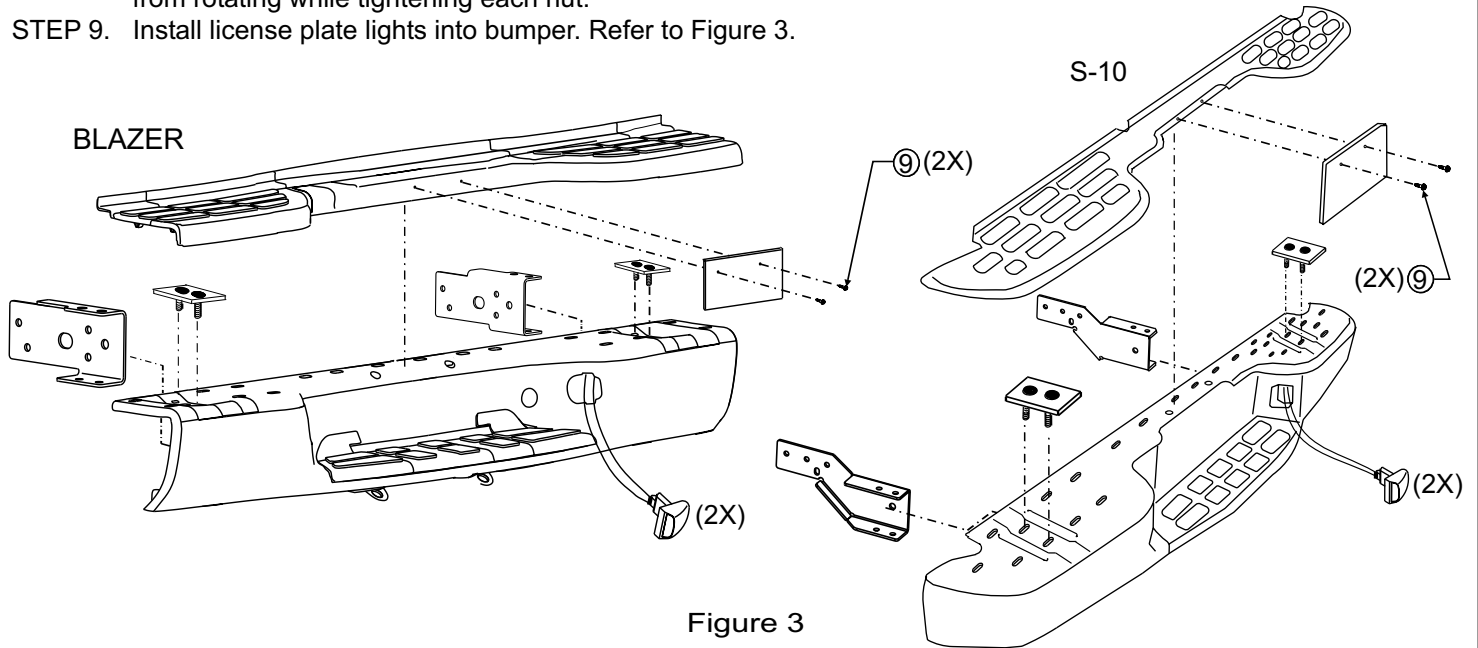
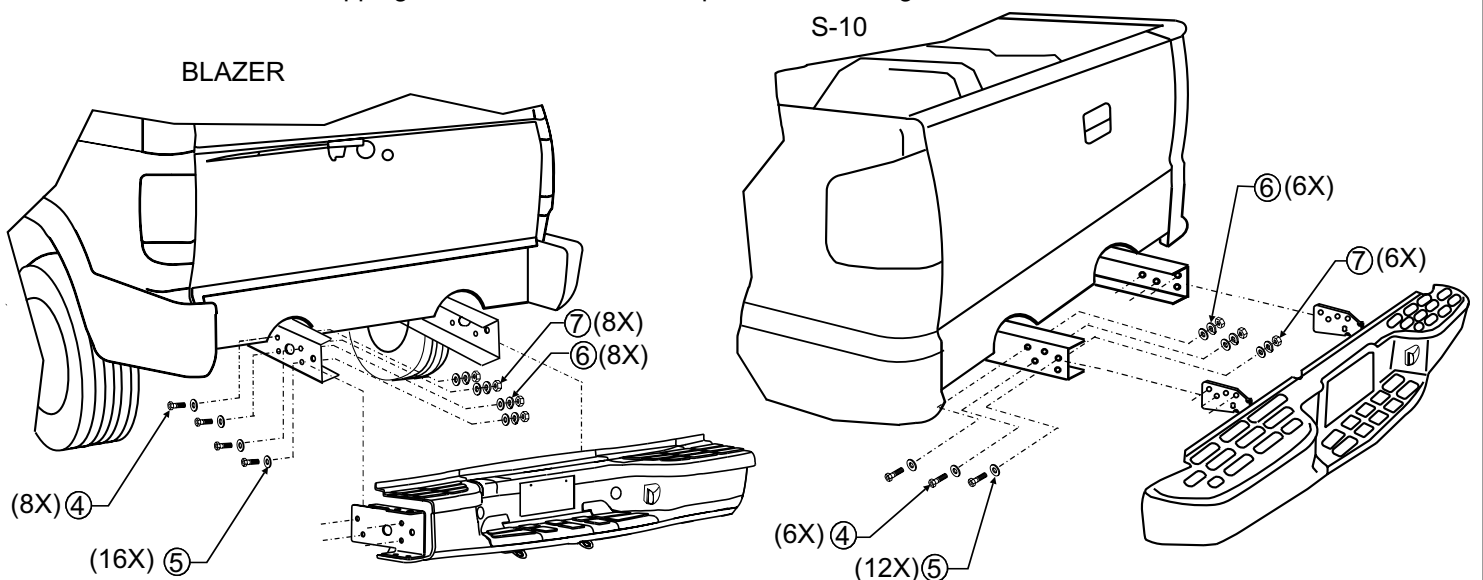

Figure 3
Figure 4
- STEP 5. Hand tighten (2) 7/16"-14 locking flanged nut onto each bolt plate.
- STEP 7. Pass (1) 1/2"-13 X 1.25" bolt along with (2) 1/2" washers through each of the bottom mounting holes.
- STEP 8. Hand tighten (1) 1/2"-13 locking flanged nut onto each bolt. Use a 3/4" open ended wrench to prevent each bolt from rotating while tightening each nut.
- STEP 9. Install license plate lights into bumper. Refer to Figure 3.
- STEP 10. Position bumper to the frame of the vehicle so that the mounting holes on the bumper's hitch align with the mounting holes on the frame of the vehicle. Refer to Figure 4.
- STEP 11. Pass 7/16"-14 X 1.25" bolt along with (2) 7/16" flat washers and (1) 7/16" split lock washers through each mounting bracket hole and into the vehicle's frame. Refer to Figure. 4.
- STEP 12. Hand tighten (1) 7/16"-14 nut onto each bolt. Use a 5/8" open ended wrench to prevent each bolt from rotating while tightening each nut.
- STEP 14. Use #14 self-tapping screws to install license plate. Refer to Figure 3.